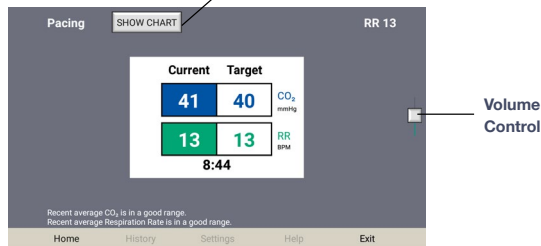

FIGURE 12
- **View Option (Graph/Chart):** Touch the Hide Chart button in the top left of the screen to toggle the view between Table and Chart. Hide Chart will show only a table (Figure 12) of Current CO₂ and RR vs. Target. This will also display written messages while audio feedback continues uninterrupted. Session time elapsed appears beneath the table.